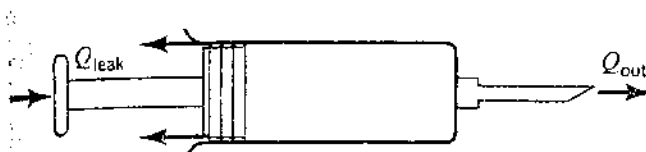

Fig. 4
(4) A hypodermic syringe (Fig. 4) is used to apply a vaccine. If the plunger is moved forward at the steady rate of 20mm/s and if vaccine leaks past the plunger at 0.1 of the volume flowrate out the needle opening, calculate the average velocity of the needle exit flow. The inside diameters of the syringe and the needle are 20mm and 0.7mm. (15%)